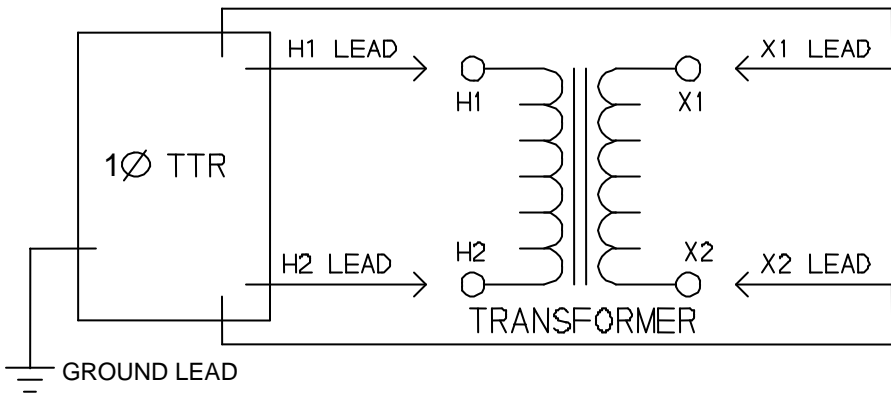
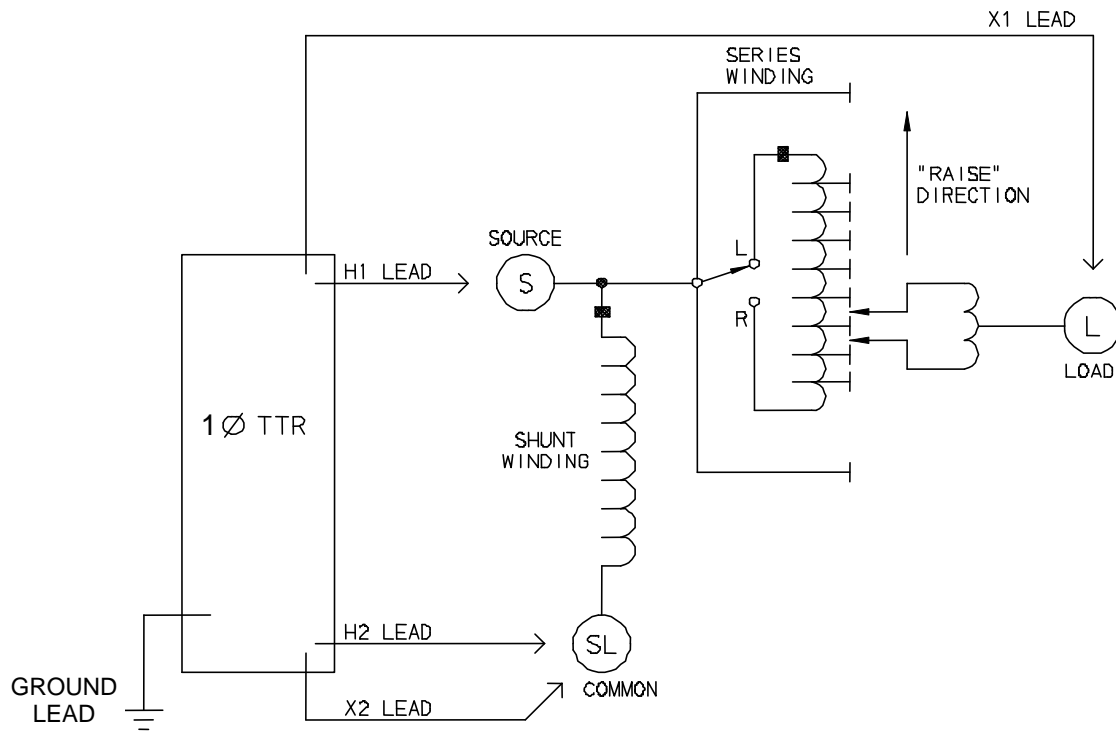

Figure 5-1. Setup for Testing Single-Phase Transformer
Figure 5-3. Setup for Testing Single-Phase, Type A (Straight Design) Step Voltage Regulator
3. Connect the clips marked X1, X2 of the test lead to the corresponding (low-voltage winding) terminals of the transformer under test. Keep X3 clear of ground and test setup. Figures 5-1 and 5-2 show test setups for single-phase transformers. Figures 5-3 and 5-4 show test setups for regulators. These and additional connection diagrams are found within the TTR100.